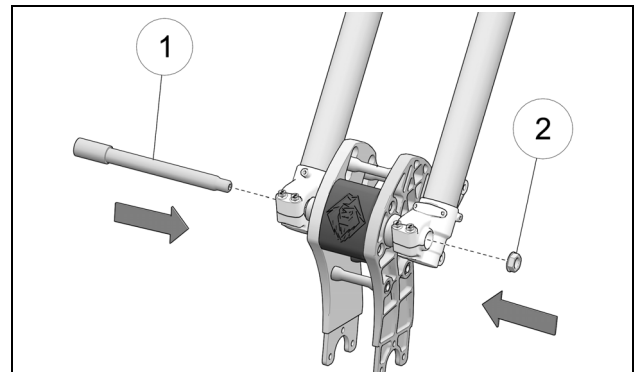

Figure 10
- Insert front wheel axle (1) through forks and axle spacers to secure spindle assembly. Install axle nut (2) and hand-tighten temporarily. Figure 10.